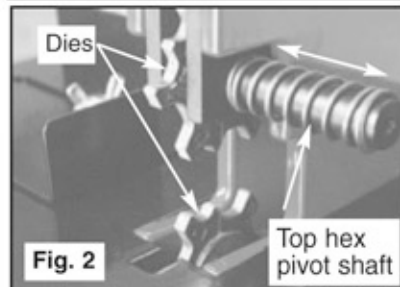
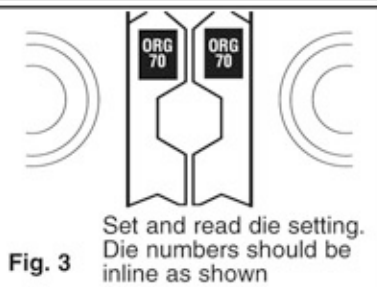

Fig. 2
Fig. 3
2. To select the die position, push the pivot pins from the spring side and rotate the dies to the proper setting (Fig. 2). Releasing the pivot pins locks the dies in place. The setting of upper and lower dies **must match** for proper crimping. (Fig. 3)